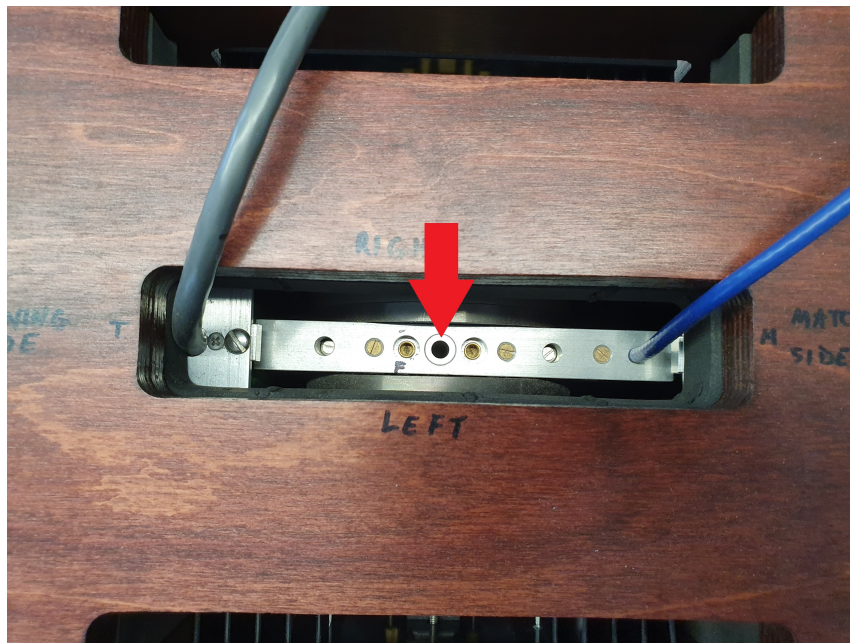

Figure 1: Permanent magnet with location of sample hole indicated.
- Insert the sample tube into the hole in the centre of the permanent magnet (see Figure 1).